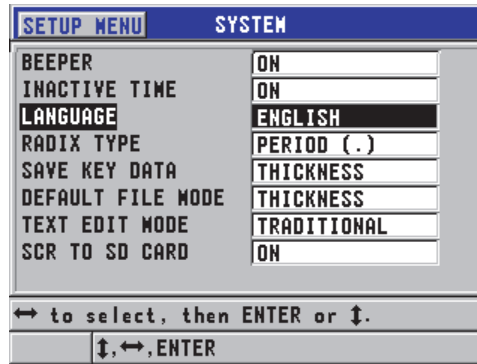

Figure 4-1 The SYSTEM screen
2. In the **SYSTEM** screen (see Figure 4-1 on page 46):